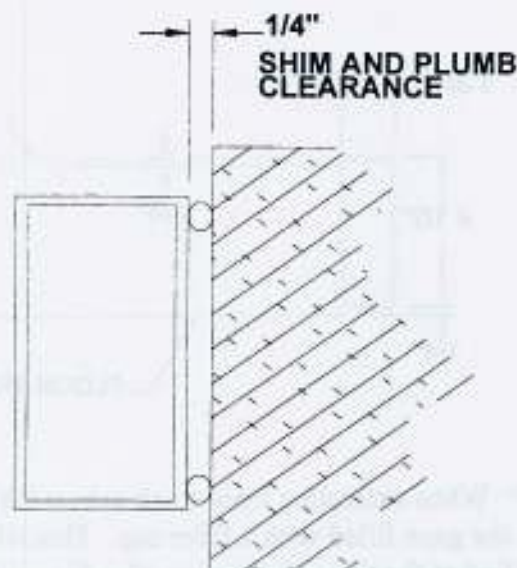

Figure 6
7. Plumb one jamb tube into both planes. Shim the back of the jamb if it is required (See Figure 6). Fasten the jamb to the building.